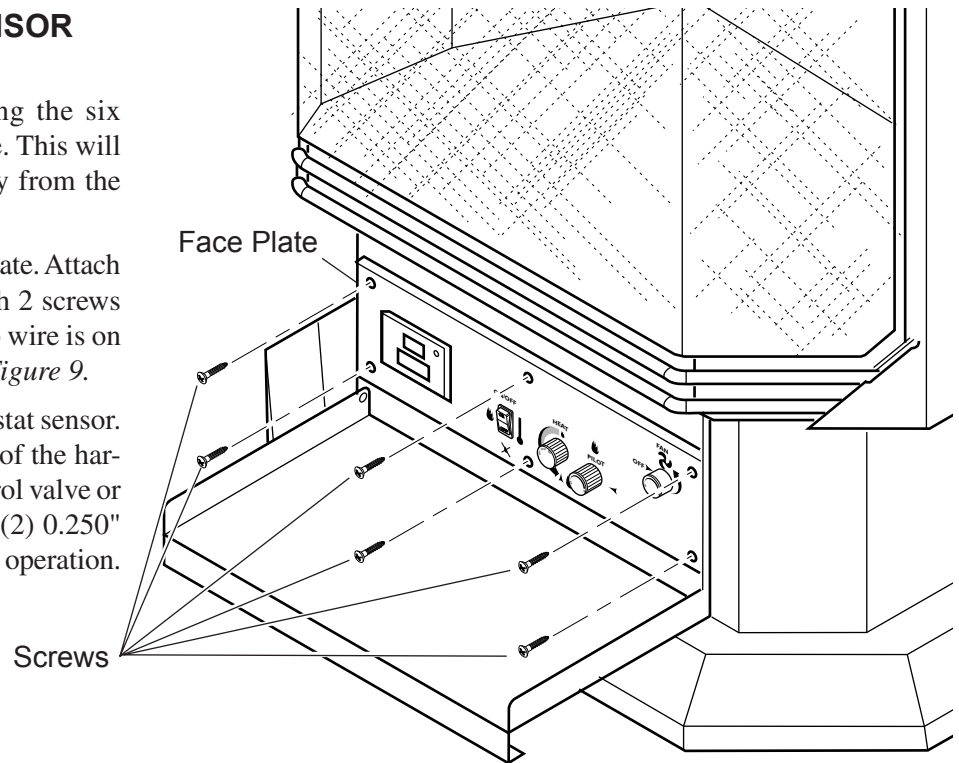

Figure 8 - Removing Face Plate from Stove
1. Remove the face plate by removing the six screws holding the faceplate in place. This will allow you to pull the faceplate away from the unit about 3" to 4". See *Figure 8*.